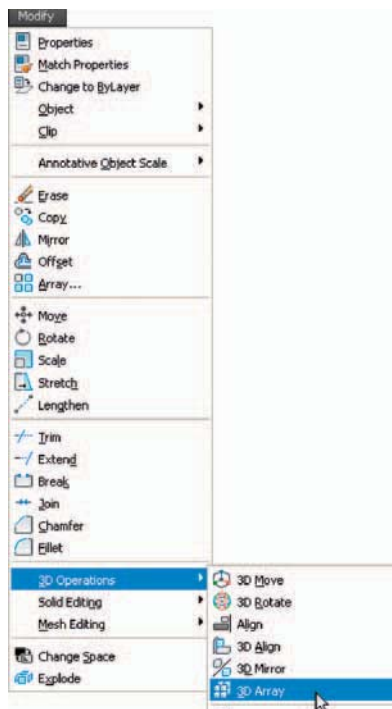

Fig. 14.11 Selecting 3D Array from the Modify/3D Operations drop-down menu
2. Click on the **3D Array** icon in the **Modify/3D Operations** drop-down menu (Fig. 14.11). The command line shows: